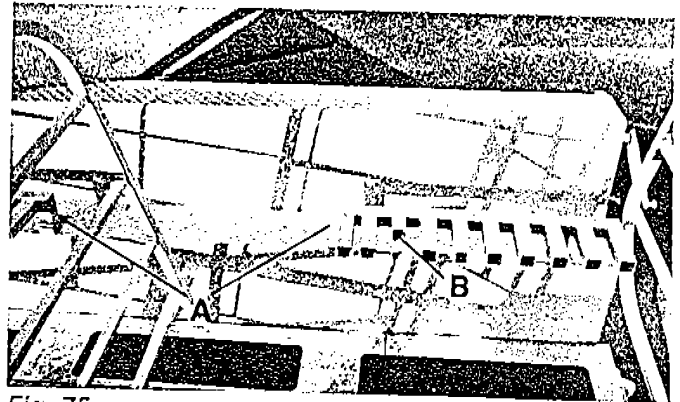

Fig. 75
- b. Two racking bars with ten square socket pipes welded to each of them are used to store the walkway platform floor sections. Install the two racking bars on either side of the center handrail on the gooseneck. (Fig. 75)
- (1) Slip the legs in the holes that are at the top
of the step riser (a). (Refer to Fig. 75)
- (3) NOTE: One racking bar is designed for installation on the left side of the step and the other is designed for the right side. Position the end of the racking bar with the short socket near the center handrail (b). (Refer to Fig. 75)